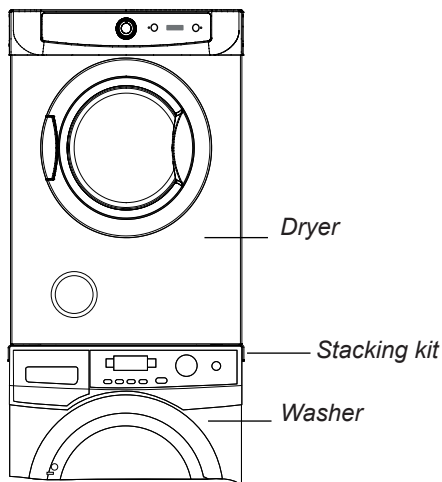

Fig.3
2. Install the dryer with stacking kit on the top of the front load washing machine (Fig.3). Drill two holes on both sides of washer with 2.9mm diameter drill. Detailed drill position as shown on the stacking kit. Make sure the included screws are used. Fix the stacking kit on the top cover of washing machine, as shown on Fig.4.